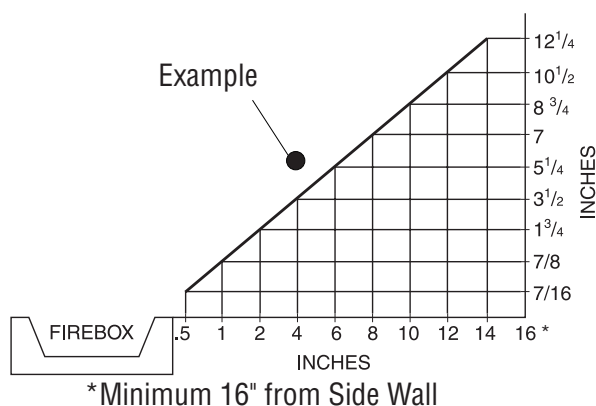

Figure 2 - Minimum Clearance for Combustible to Wall
Minimum Wall and Ceiling Clearances (see *Figure 2*)
A. Clearances from the side of the fireplace cabinet to any combustible material and wall should follow diagram in *Figure 2*.
Example: The face of a mantel, bookshelf, etc. is made of combustible material and protrudes 3-1/2" from the wall. This combustible material must be 4" from the side of the fireplace cabinet (see *Figure 2*).